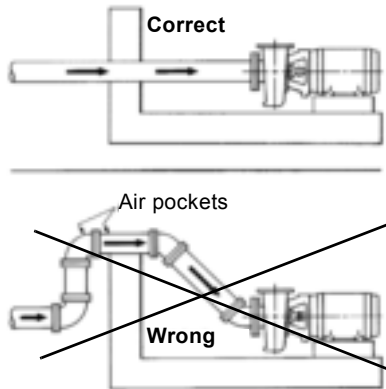

Fig. 3 Air pocket prevention
- Avoid any high points, such as pipe loops (see fig. 3), as this may create air pockets and throttle the system or cause erratic pumping.